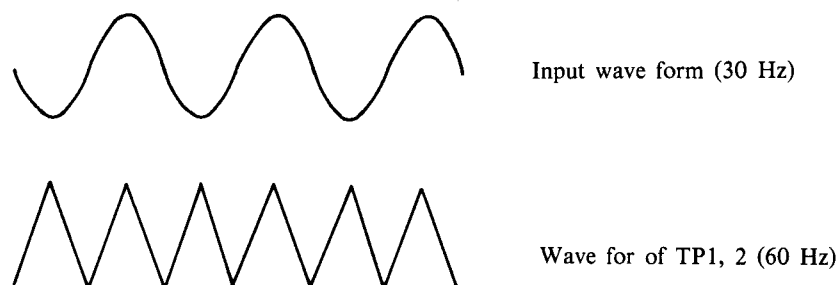

Fig. 3
3. Adjust the wave form with the VR1 (L-ch) and VR1b (R-ch) so that it is at a constant level. (Fig. 3)